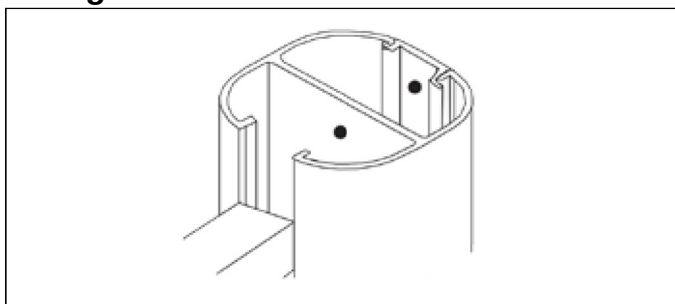

Figure 12
- A. Measure the distance from the centre of the screw hole to the top of the post and pre-drill the long post end cover that has been cut to the length of the full post. Slot in place as shown. See **Figure 12**.